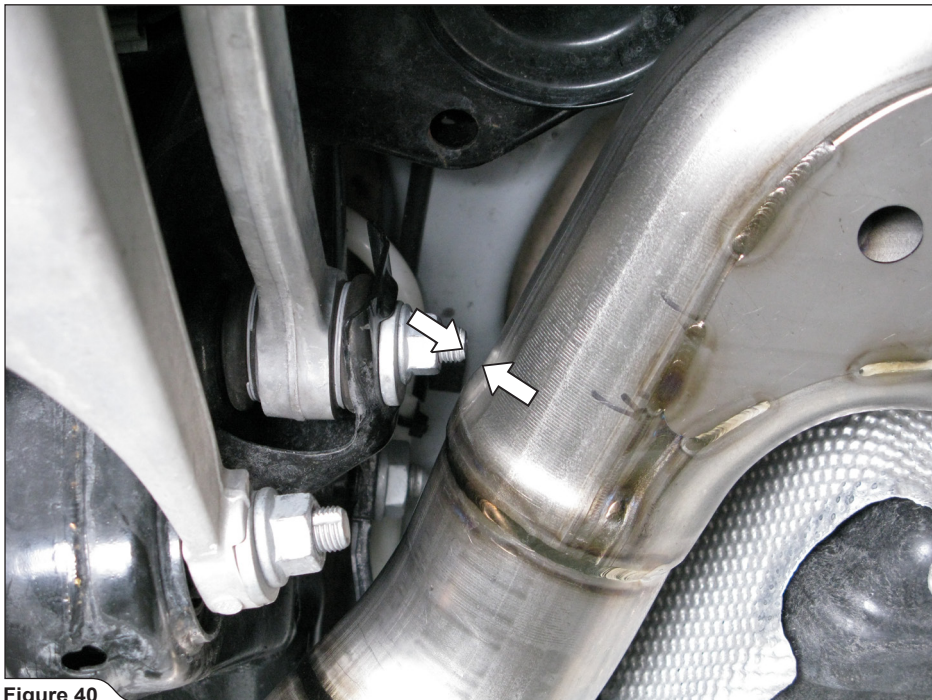

Figure 40
20. **For all exhaust systems:** make sure, that clearances between Akrapovič exhaust components and vehicle chassis are sufficient (**Figure 40**).